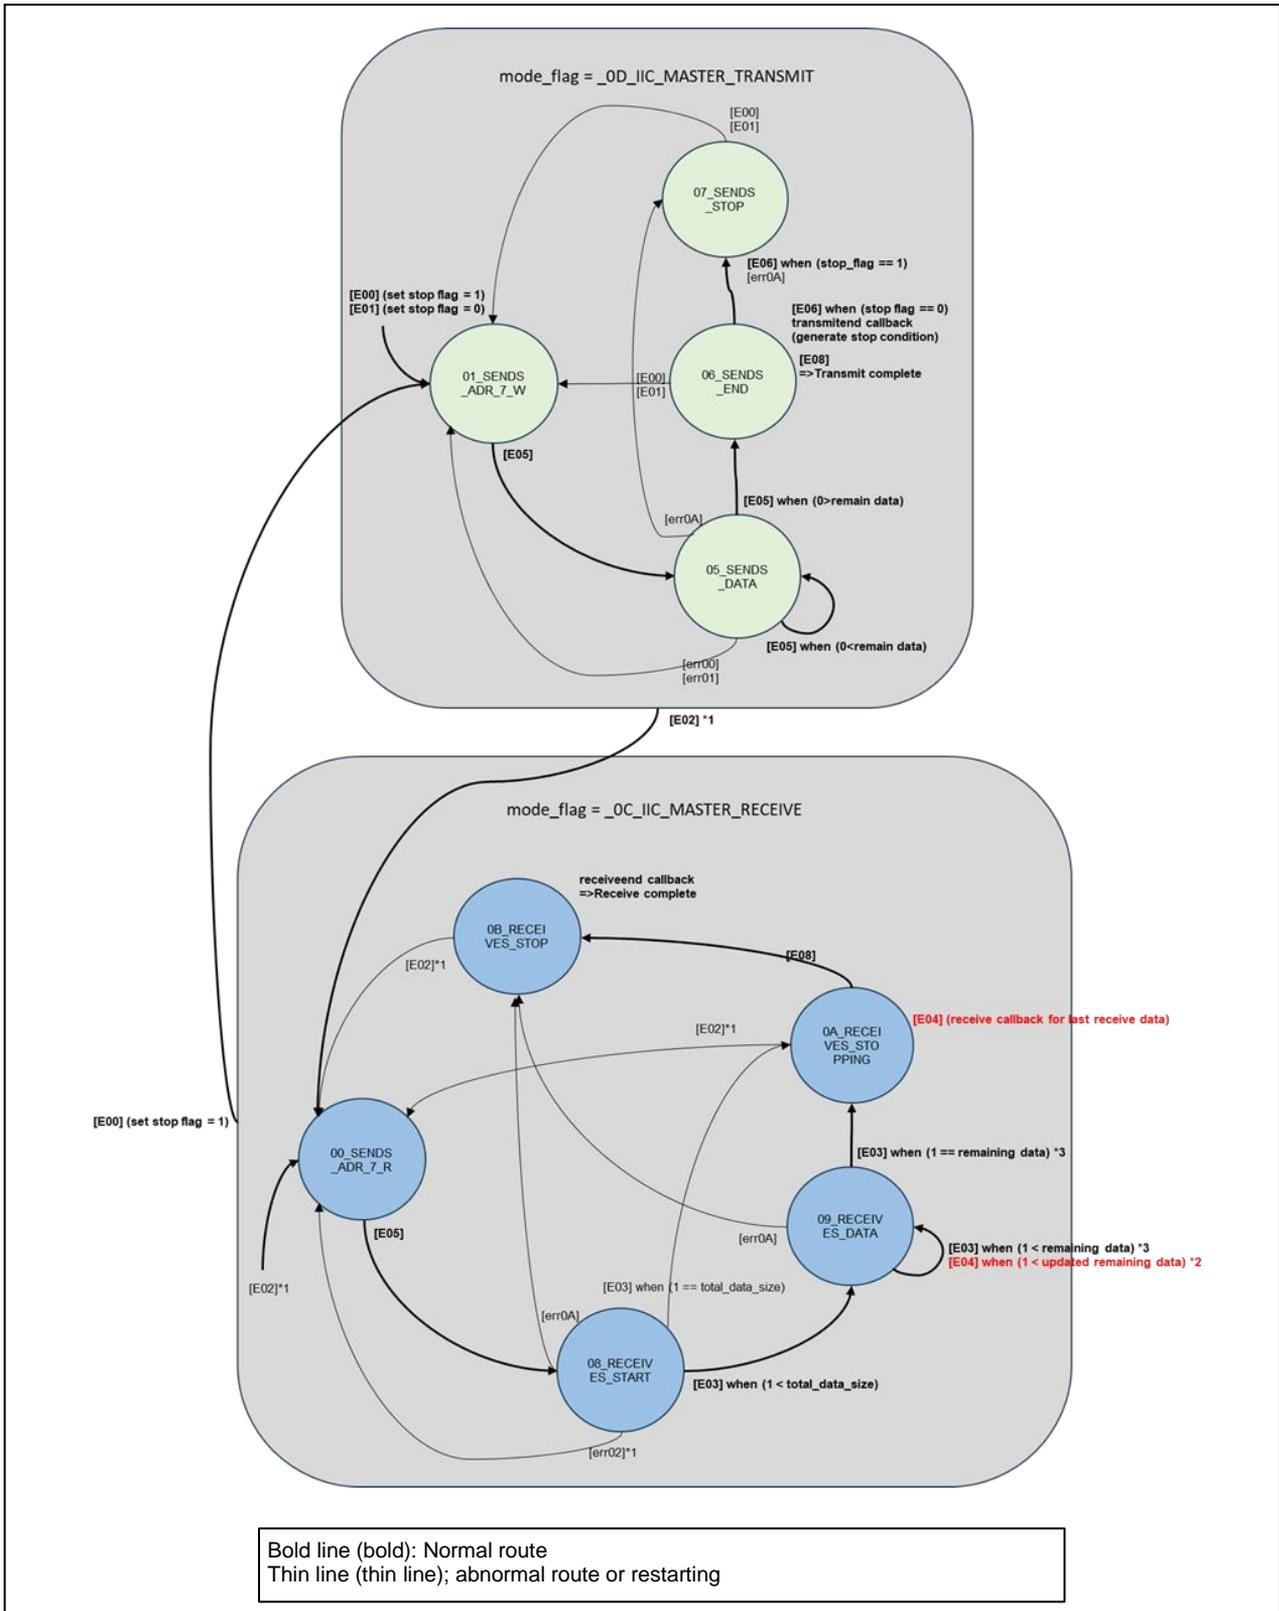

Figure 30 PMBus Master Driver Layer status transitions
The state transition of the PMBus Master Driver Layer is divided into the transmit operation part and the receive operation part to PMBus Slave, and the specified data is sent/received by the specified number of bytes. PMBus Master Driver status transitions are shown in Figure 30, Figure 31, and Table 13, Table 14.
- Light green indicates state transitions when mode\_flag=0D in Figure 30.
- Light blue indicates state transitions when mode\_flag=0C in Figure 30.